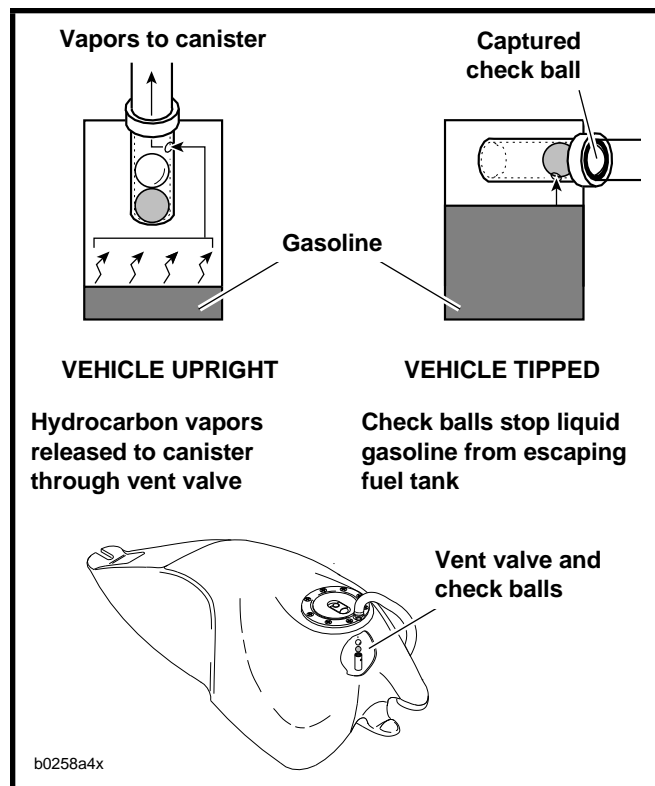

Figure 4-24. Vent Valve Operation
- See Figure 4-24. Hydrocarbon vapors in the fuel tank are directed through the vent valve and stored in the carbon canister. If the vehicle is tipped at an abnormal angle, the vent valve closes to prevent liquid gasoline from leaking out of the fuel tank through the vapor vent hose.